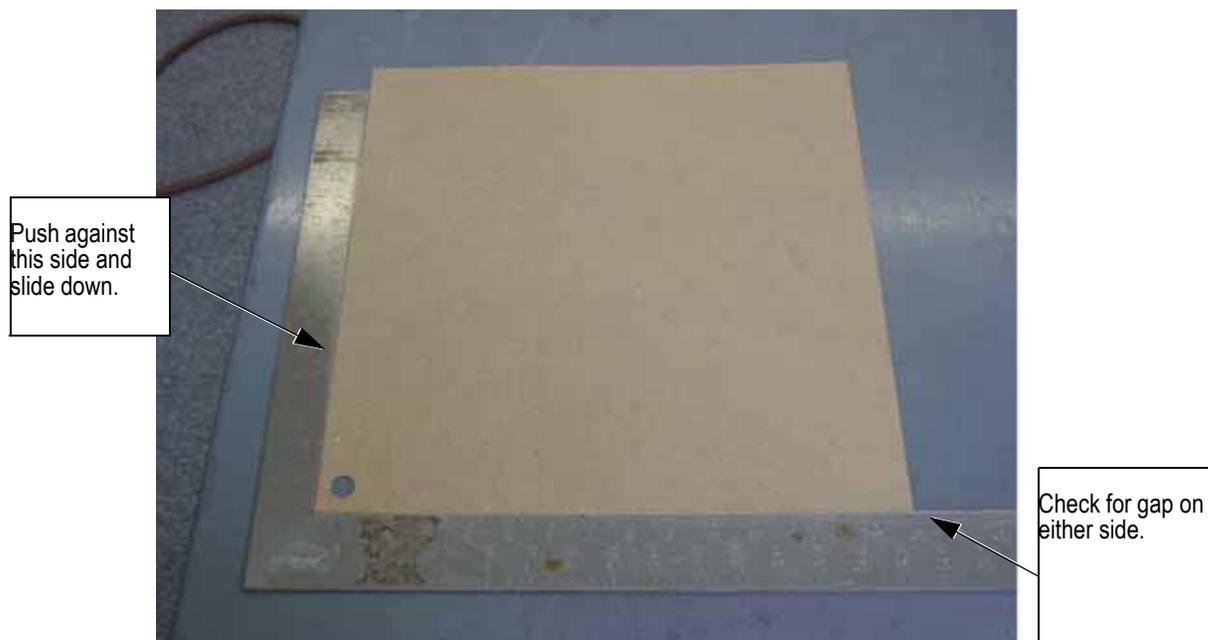

Figure 6-11. Squareness Check
2. Use the carpenter's square to measure the part (See Figure 6-11). Place the cut Y side against the square. Observe the X-axis cut on the other edge of the square. As you slide the part along the Y-axis, keeping the Y edge tight to the square, one side or the other will touch the other side of the square first. If there is a gap between the edges of the material and the edge of the carpenter's square, the Y-offset will need to be adjusted.